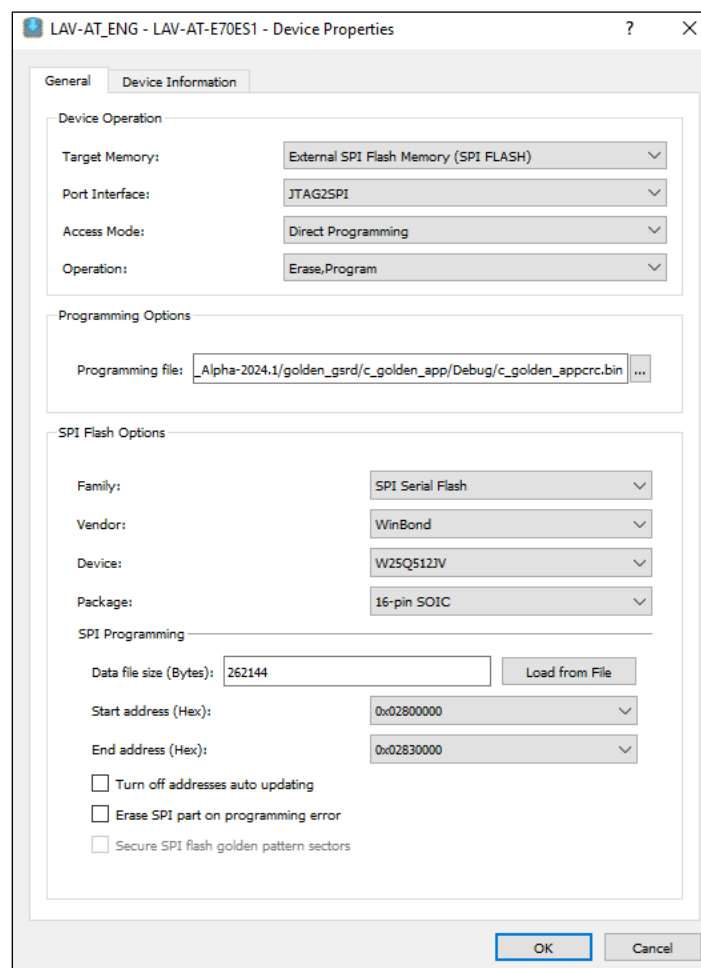

Figure 7.20. Device Properties to Program the SPI Flash
18. To program the **c_golden_appcrc.bin** file into the SPI Flash, follow the settings as shown in Figure 7.20.